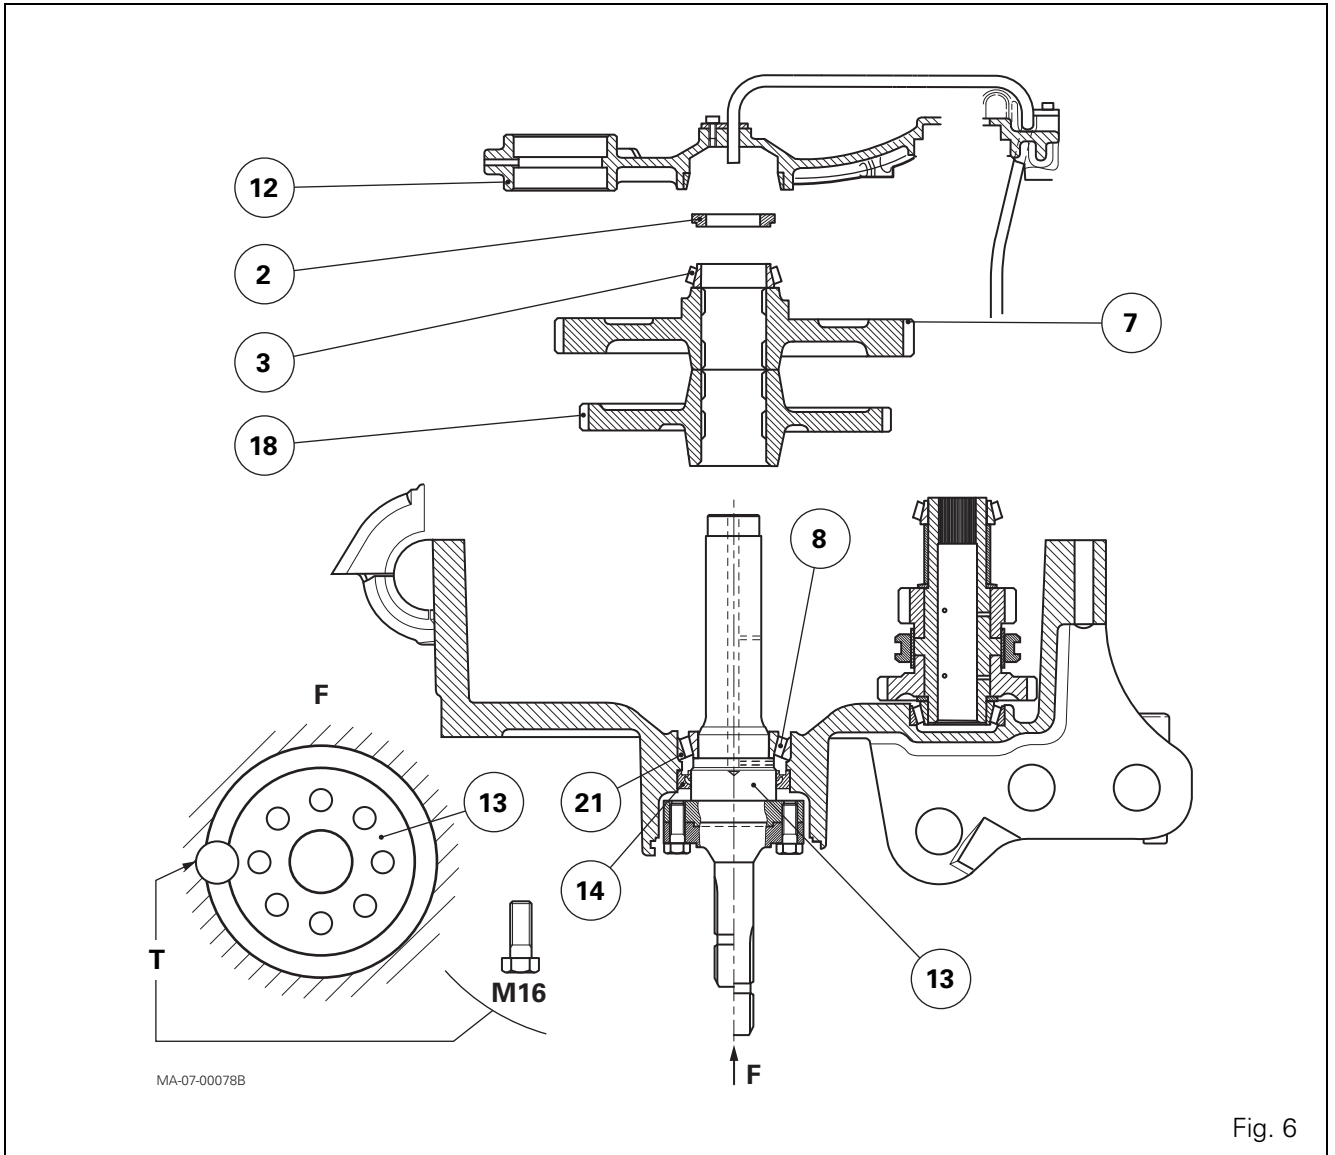
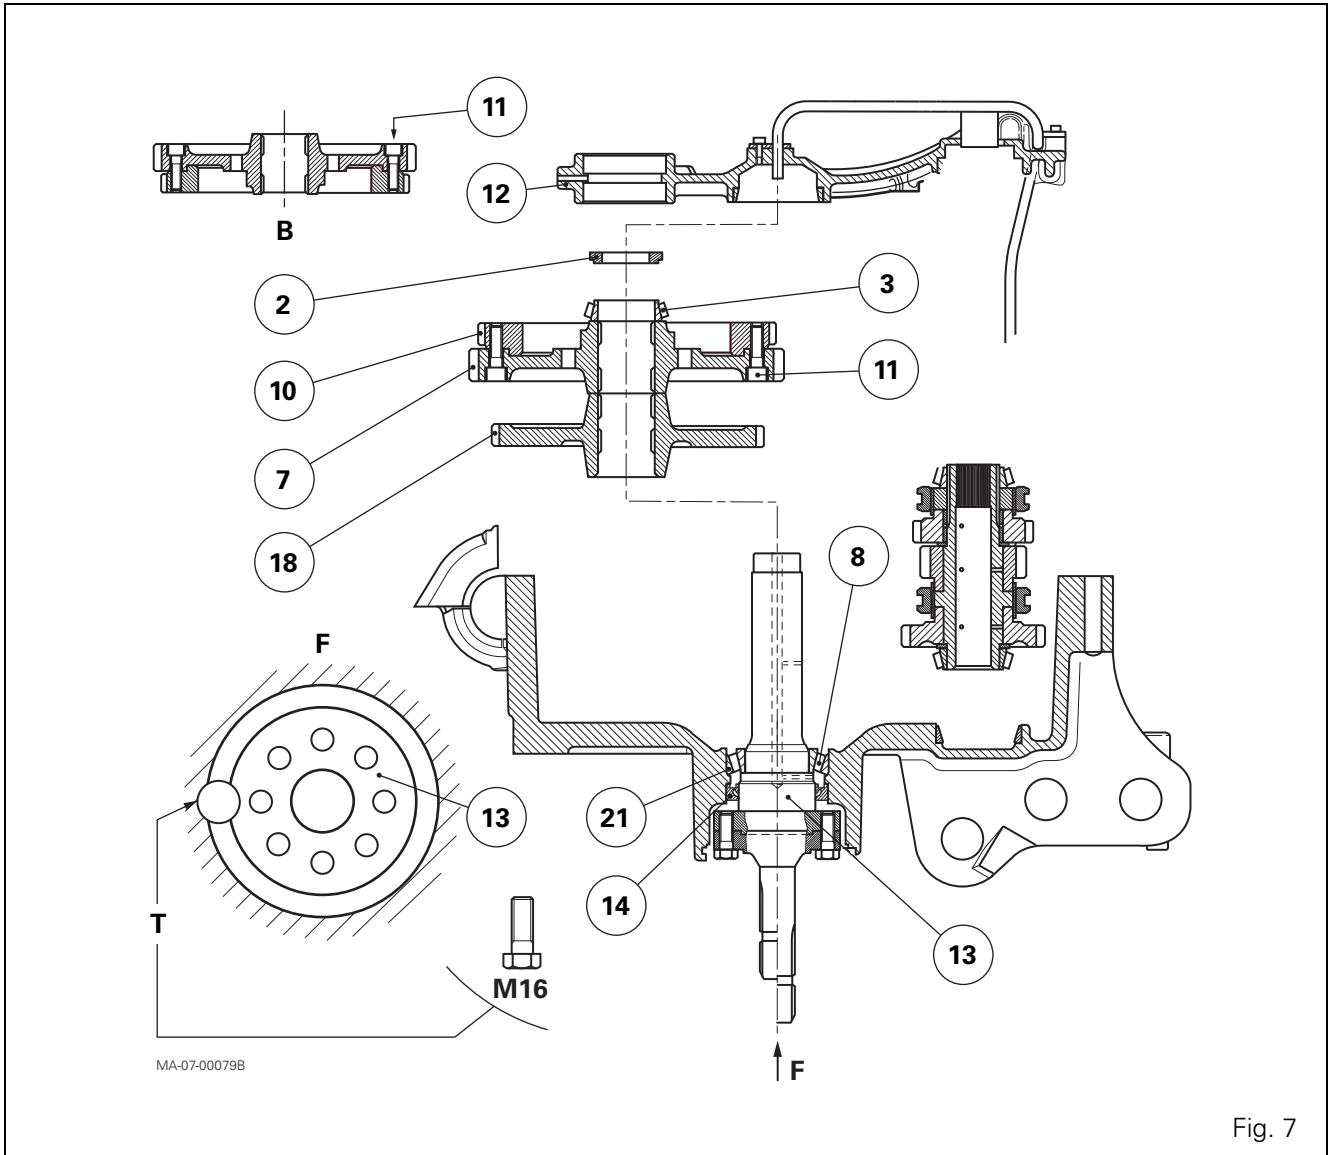

Fig. 6
Fig. 7
Disassembling the 540 - 1000 rpm driven gears (Fig. 6)
15. If necessary, shim the tapered roller bearings (3) (19) and (8) (21) (see § C).
- the 540 - 1000 rpm driven gears (7) (18) (Fig. 6).
17. Using a suitable fixture, fit the bearing cone (3).
18. Clean the threads of the new screw (2) and the output shaft (13).
Disassembling the 540 E driven gears (Fig. 7)
Turn the 540 E gear set over in order to access the screw heads (11) (Fig. 7, detail B).
36. Clean the tapped holes on the gear (10) and the screw (11) threads.
37. Reassemble the 540 E gear set (7) (10).
38. Lightly smear the thread of the screws (11) with Loctite 270 or equivalent. Screw in and tighten these screws to 110-140 Nm.
39. If necessary, shim the tapered roller bearings (3) (19) and (8) (21) (see § C).
- the 540 E driven gears (Fig. 7).
41. Using a suitable fixture, fit the bearing cone (3).
42. Clean the threads of the new screw (2) and the output shaft (13).
53. Tighten the nut (2) to 160-240 Nm without Loctite (Fig. 6 or Fig. 7 depending on version).
54. In space E of the removable front support (12), slide a shim (23) thickness reduced from 0.15 to a maximum of 0.20 mm in relation to the thickness found during disassembly.
55. Fit the bearing cup (19).
56. Temporarily fix the removable front support (12) to the rear housing of the PTO. Tighten a few opposing V screws to 68-92 Nm.